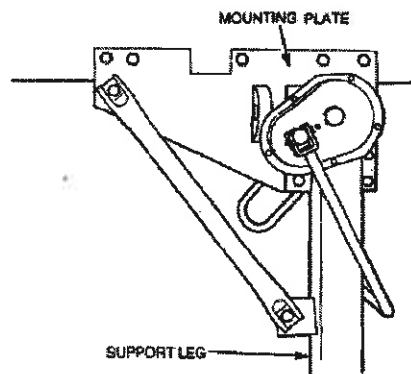

Figure 46 Support Leg Mounting
- d. Support the leg, and then remove the ten bolts, nuts and washers securing the leg to the mounting plates (Figure 46).